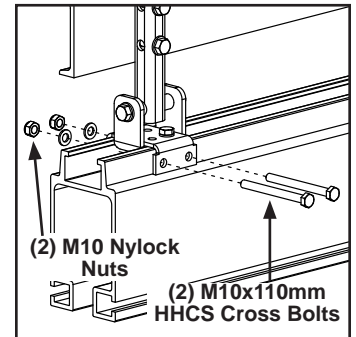

Figure 3-11
- Step 3. Install two (2) M10 x 110 mm HHCS with M10 nylock nuts. **Tighten until bolts are snug + 1/4 turn.** Do not over tighten. Over tightening could cause bracket to bend. See Figure 3-11.